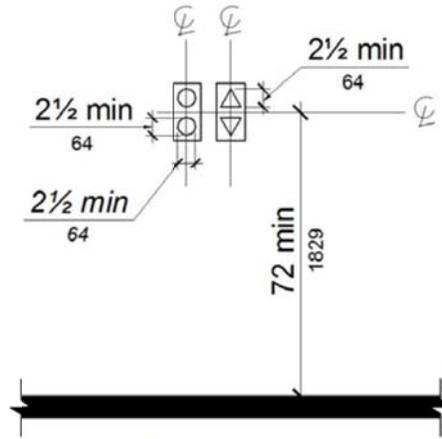

FIGURE 11B-407.2.2.2
20. Specify visual and audible signals at each hoistway entrance complying with the following per CBC Figure 11B-407.2.2.2: